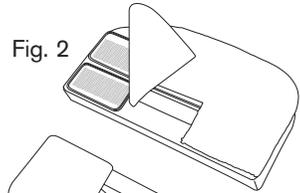
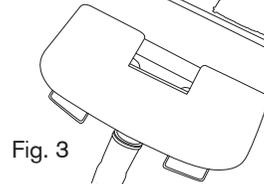

Fig. 2
Fig. 3
- Attach the appropriate cleaning pad to the snap-on base (Fig. 2). Attach the snap-on base to the floor tool (Fig. 3).